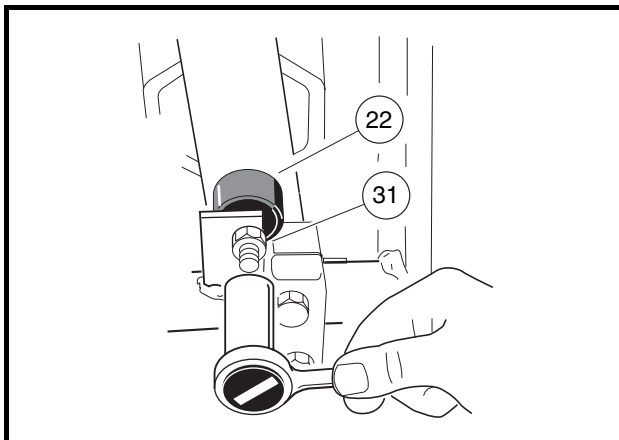
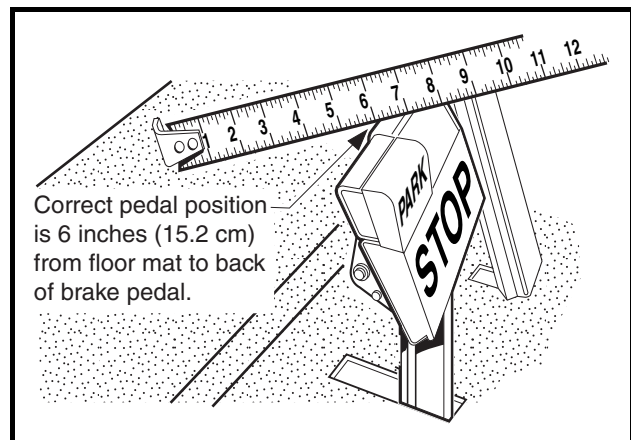

Figure 5-21 Brake Pedal Height Adjustment
Figure 5-22 Brake Pedal Height Measurement
- 2.3. Loosen the brake stop jam nut (31), then relieve pedal pressure on the stop by pushing down slightly on the pedal. Next, adjust the brake stop bumper (22) up or down (**Figure 5-21, Page 5-16**). Adjusting the bumper upward decreases distance between pedal and floorboard. Adjusting the bumper downward increases distance between pedal and floorboard. Proper brake pedal height is 6 inches (15.2 cm) (**Figure 5-22, Page 5-16**).
- 2.4. Tighten the jam nut (31) to 8 ft-lb (9.5 N·m) (**Figure 5-21, Page 5-16**).
- 3.1. Measuring perpendicular from the floorboard to the back of the brake pedal, press the brake pedal and measure the distance that the pedal moves before all of the slack is taken out of the brake cables (**Figure 5-22, Page 5-16**).